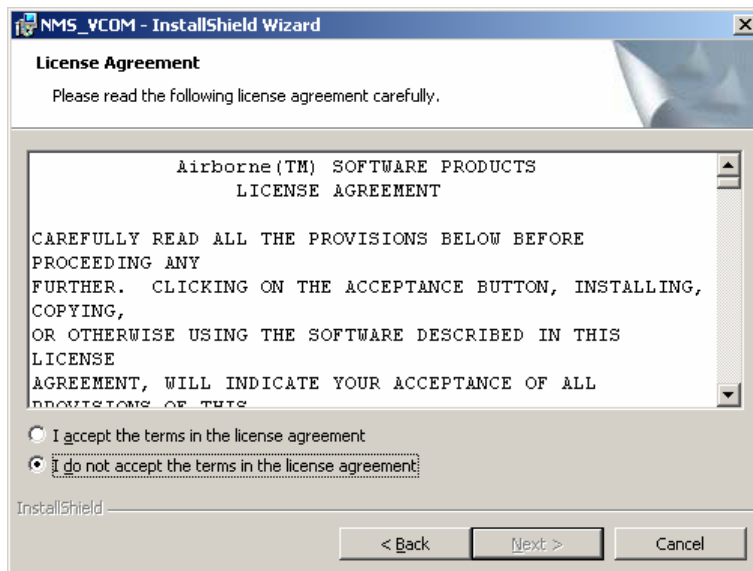

Figure 31. License Agreement
- Click the **Next** button. The License Agreement appears (see Figure 31).